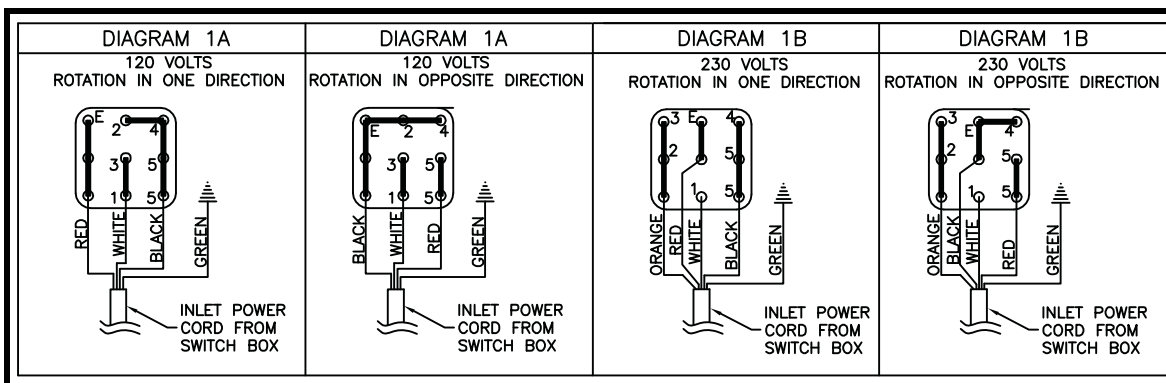

Figure 6. Single Phase Wiring Diagrams
- Wire vibrator according to appropriate wiring diagram inside terminal box or see Figure 6 or 7. Use closed loop wire connectors only.